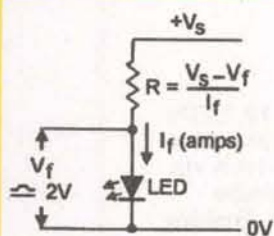
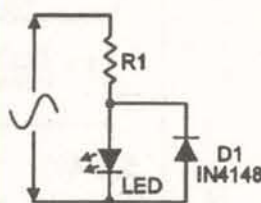

Figure 5. Method of finding the R value for a given V_s and I_f .
Figure 6. Using an LED as an indicator in an AC circuit.
In use, an LED must be wired in series with a current-limiting device such as a resistor. Figure 5 shows how to work out the resistance (R) value needed to give a particular current from a particular DC supply voltage. Thus, if a red LED is required to operate at 20mA from a 10V supply, R needs a value of $(10V - 2V)/0.02A = 400\Omega$. In practice, R can be connected to either the anode or the cathode of the LED.
A LED can be used as an indicator in an AC circuit by wiring it in inverse parallel with a IN4148 (or similar) silicon diode, as shown in Figure 6, to prevent the LED from being reverse-biased; the LED is fed with a half-wave current in this mode, so — for a given brightness — the 'R' value must be halved relative to that indicated in the Figure 5 DC circuit.
Direct connection LEDs are designed to be connected directly across a fixed-value DC or AC voltage source. DC voltage types take the basic form shown in Figure 7(a) and incorporate a current-limiting resistor that is housed in the LED body in 5V and 12V types, or in one of the LED leads in higher voltage types. AC voltage types (usually designed for use with 110V or 240V supplies) take the basic form shown in Figure 6, but are usually housed in an insulated panel-mounting assembly.